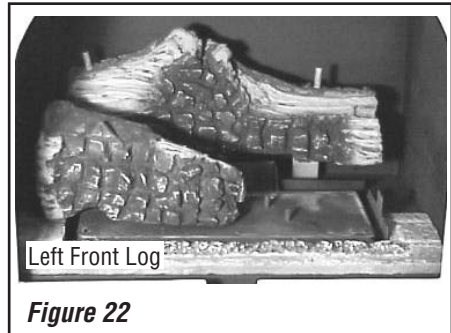

Figure 22
- Place the left front log onto the corresponding burner pin and sub-floor left tab as shown in Figure 22.